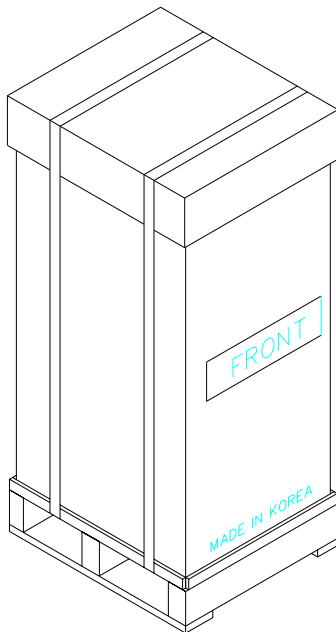

Fig. 6.1
- 2) Cut the straps that are fastened around the box with a knife. (refer to Fig. 6.1)